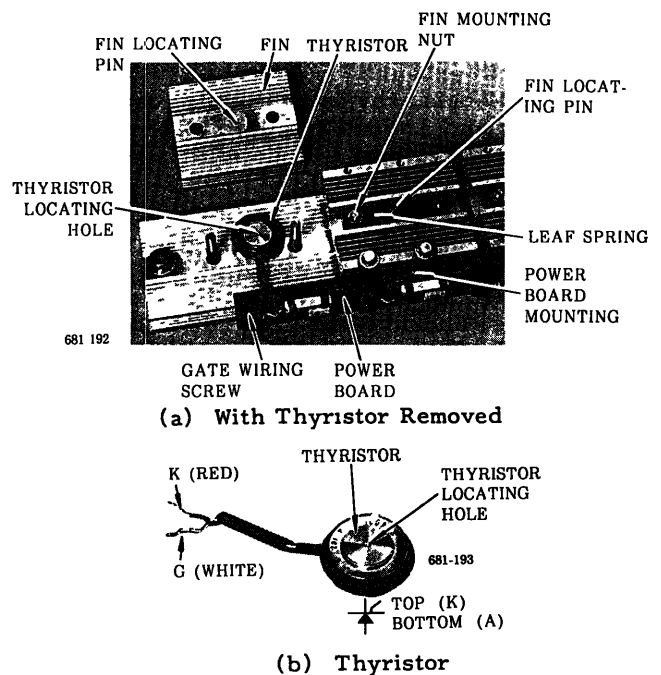

Fig. 21 Thyristor Replacement
3. Place the main circuit thyristor module on a work bench, and loosen the control board mounting screws (Fig. 21) for the thyristor assembly to be replaced, and then, loosen the gate wiring screws.